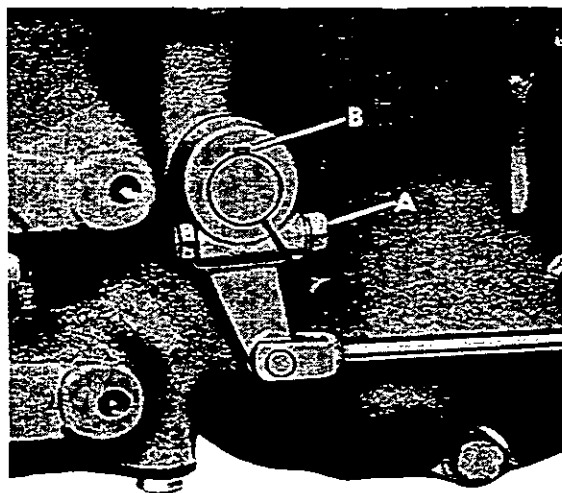
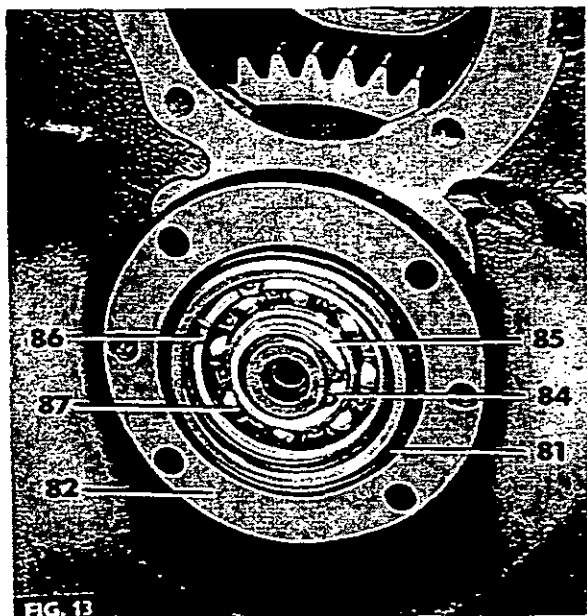

FIG. 12
FIG. 13
2. Figure 12. Remove the bolt, nut and lockwasher (A) securing the left brake cross shaft lever. Remove the lever and key (B) from the shaft.
4. Remove the four bolts (78) securing the cover plate (80).
5. Figure 13. Remove the circlip (84) and the thrust washer (85).
6. Screw two  $\frac{3}{8}$  UNC x 75 mm (3 in) bolts into the tapped holes in the bearing housing (82). Progressively and evenly tighten the bolts until the housing is extracted.
7. Remove the 'O' ring (81) from the bearing housing.
8. If the bearing (87) needs servicing, remove the circlip (86) and press out the bearing (87).
1. Refit the p.t.o. driveshaft front bearing (87) to its housing (82) and secure it with the circlip (86).
2. Refit the housing (82) together with a new gasket (83) into the transmission case.
3. Pull the p.t.o. driveshaft (90) into its bearing (87) by using special tool MF 218A.
4. Figure 13. Secure the p.t.o. driveshaft with the thrust washer (84) and the circlip (85).
5. Using a new 'O' ring (81) refit the front cover plate (80).
**NOTE - WHEN REFITTING THE COVER PLATE AND THE BOLTS (78) USE SEALING COMPOUND 'HYLOMAR COMPOUND SQ 32M' TO SEAL THE PLATE AND BOLT THREADS.**
7. Figure 12. Refit the lever and key to the brake cross shaft, then re-tighten the nut and bolt.